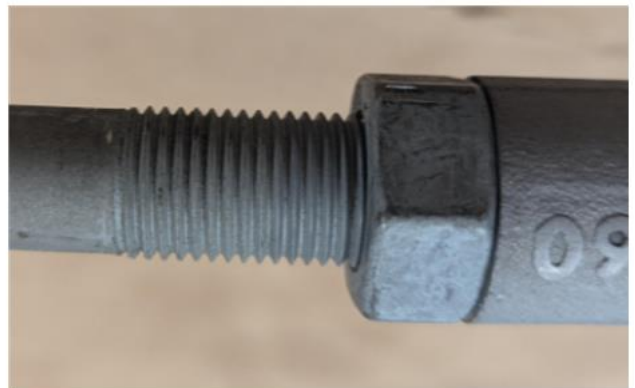

Fig 1 Fig 2.
**<<<Note>>>** This condition may have happened during service work or possibly a minor collision like wheel contact with a curb. A visual symptom of the issue could be the tie rod adjusters exhibit uneven exposed thread count as shown below (Fig 1 and Fig 2). If this exists- continue with the below inspection.
3. If the tie rod adjusters have a significant visual difference in exposed threads (Fig 1, Fig 2) perform a toe alignment and verify the steering wheel position is straight.